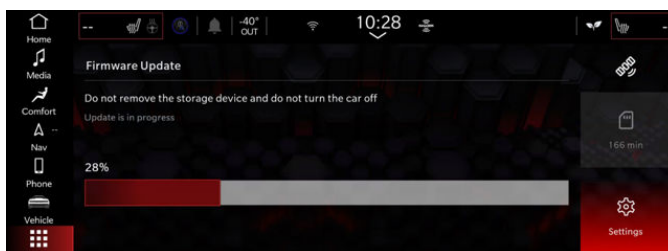

Fig. 17
30. The update will take approximately 2-3 minutes Fig. 17.